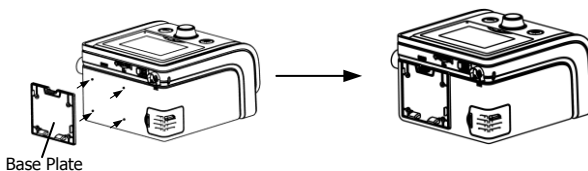

Fig. 11-11
(2) Point the four holes of the **Base Plate** towards the four reference points on the back of the main device to properly stick the plate to the device, as shown in Fig. 11-11.